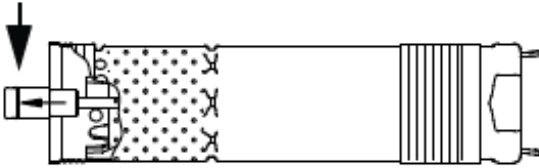

Figure 3-6: Pump Shaft Position
2. Pull the pump shaft out to the position shown in fig. 3-6.